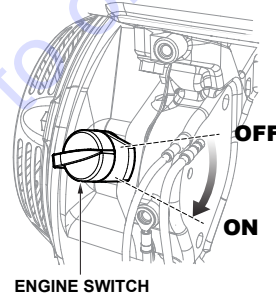

Figure 20. Engine On/Off Switch
4. Turn the engine switch (Figure 20) to the ON position.